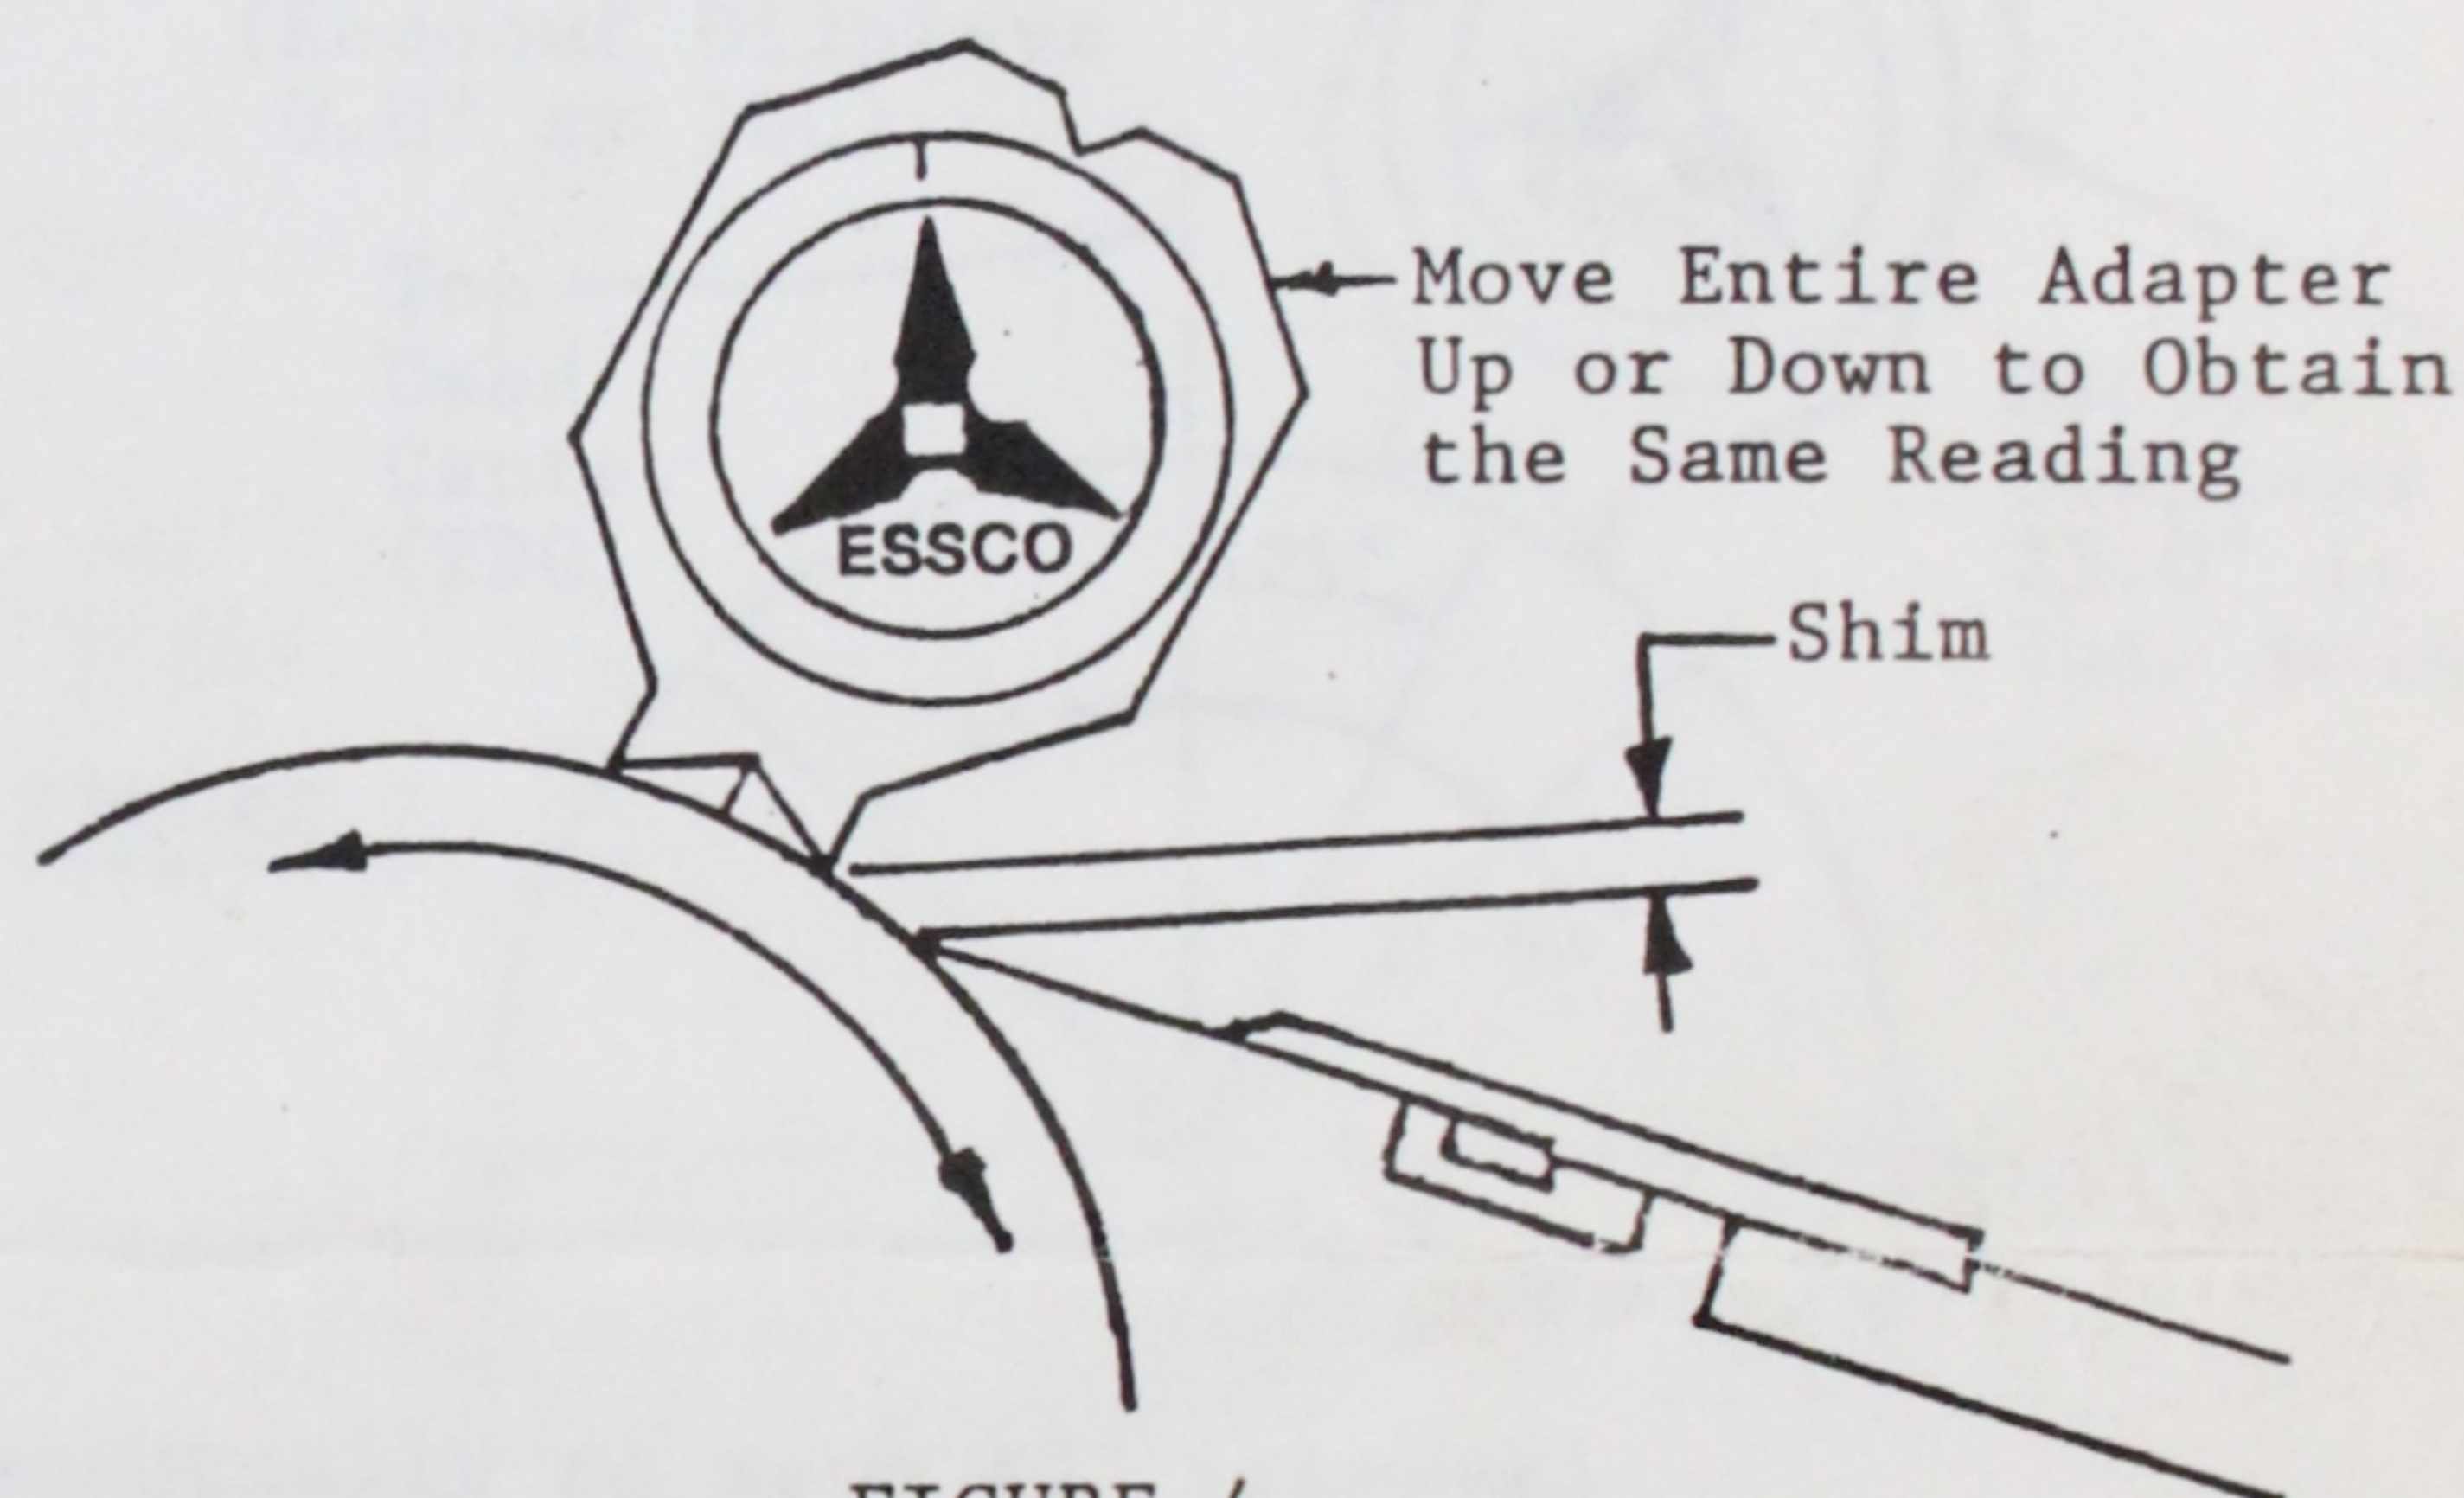

FIGURE 4
4. If same reading is not obtained, move entire adapter circumferentially (up or down) on roll without rotating sensing unit until same reading is obtained. Vertical distance between blade tip and adapter foot is required amount to shim doctor to make level. (See Figure 4)